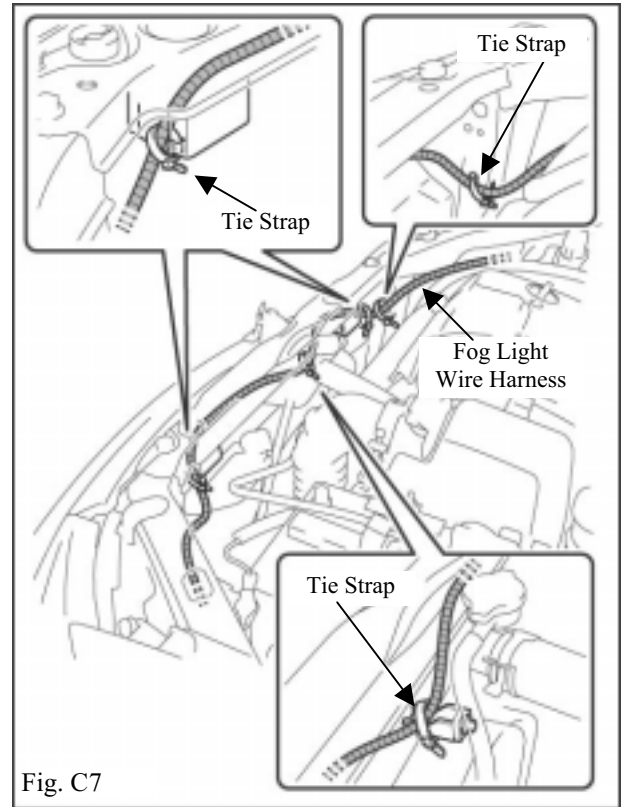

Fig. C7
- ➔ 11. Secure the fog light wire harness to radiator support upper with four (4) tie straps at positions shown. (Fig. C7)